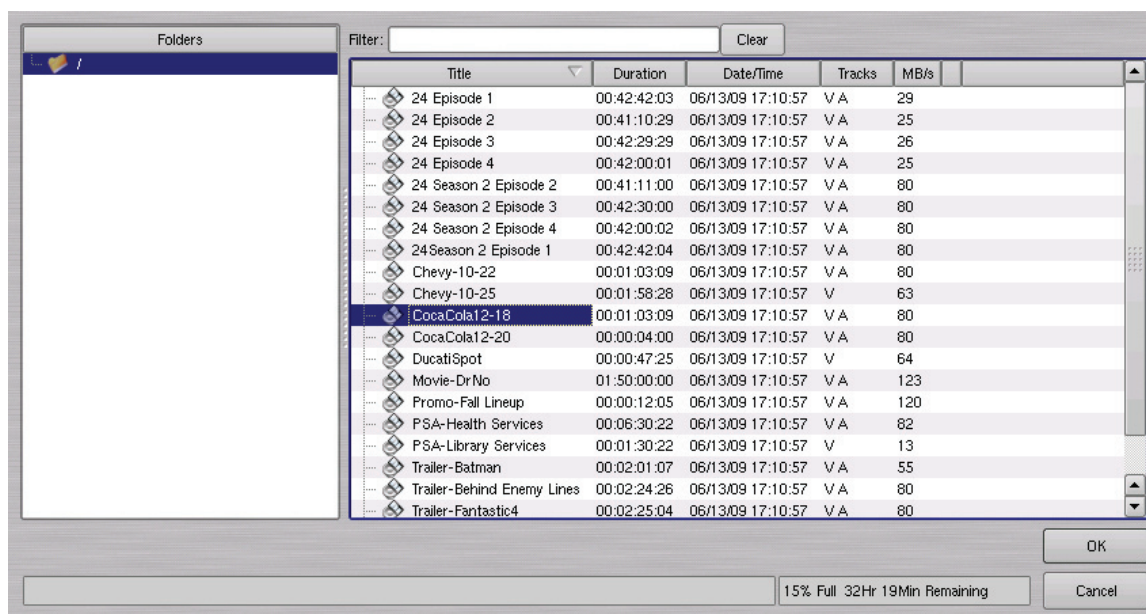

Figure 13 – Channel-1 Clip Navigator in “Open” Mode
1. Select **FILE > OPEN** from the Transport Window of Channel 1, 2, 3 or 4. The Clip Navigator shown in **Figure 13** appears.